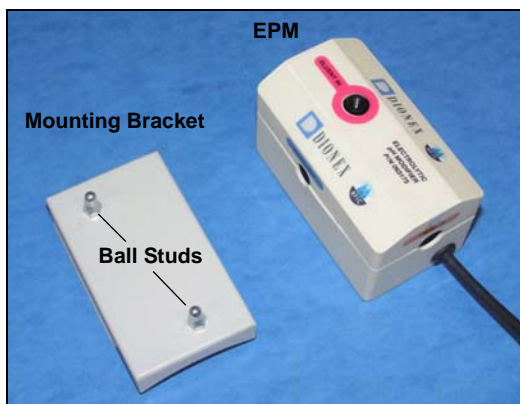

Figure 67. EPM and Mounting Bracket
2. Push the EPM onto the ball studs on the mounting bracket (see Figure 67).